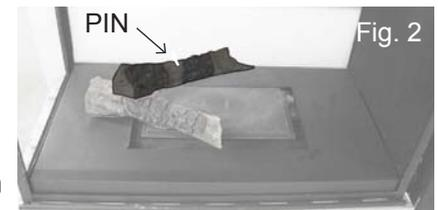

Fig. 2
4. Place the #2 log onto the pin located in the #1 log, it should rest in the middle of the right side log support, as shown in Figure 2. Place one pin into the middle of the #2 log, as shown in Figure 2.